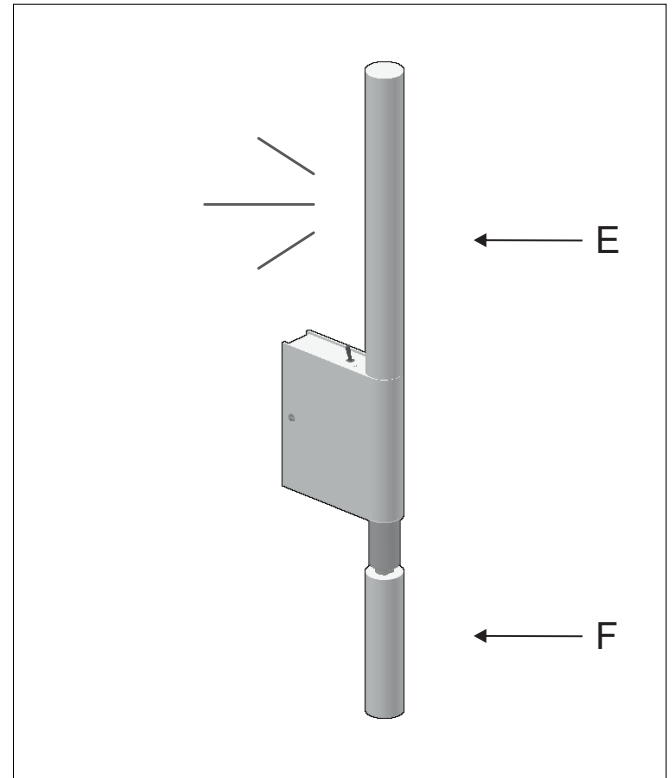

Figure 3B
The wall switch controls the power of the entire lamp (E). The reading arm (F) can be also turned On/Off using the included switch. Figure 3B.